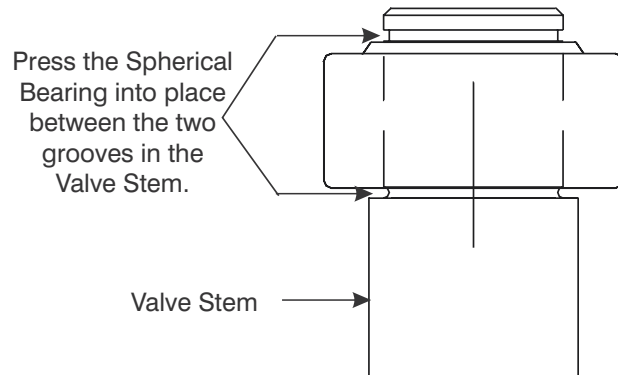

Figure 9-16. Placement of Spherical Bearing
12. The Spherical Bearing should fit between the two grooves in the Valve Stem as shown in Figure 9-16.